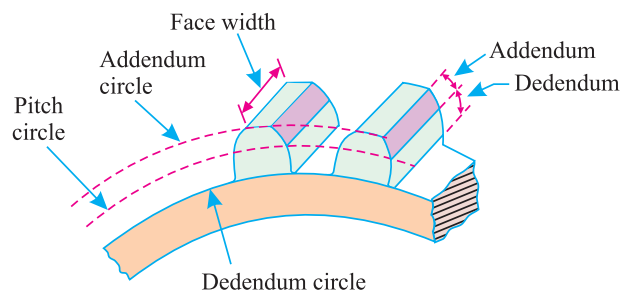

Fig. 34.2. Terms of gears.
1. **Pitch circle.** An imaginary circle, which would transmit the same motion as the actual gear, by pure rolling action, is called *pitch circle* as shown in Fig. 34.2. The diameter of the pitch circle is known as pitch circle diameter.
2. **Addendum circle.** The part of a gear outside the pitch circle is called addendum, and the circle (concentric with the pitch circle) drawn through the top of the teeth is known as *addendum circle* as shown in Fig. 34.2. The diameter of the *addendum circle* is known as addendum circle diameter.
3. **Dedendum circle.** The part of a gear inside the pitch circle is called dedendum, and the circle (concentric with the pitch circle) drawn through the bottom of the teeth is known as *dedendum circle* or root circle shown in Fig. 34.2. The diameter of the *dedendum circle* is known as dedendum circle diameter.
7. **Face of the tooth.** The surface of a tooth along its width, and above the pitch circle is known as *face of the tooth* as shown in Fig. 34.2.
8. **Flank of the tooth.** The surface of a tooth along its width, and below the pitch circle is known as *flank of tooth* as shown in Fig. 34.2.
9. **Face width of the tooth.** The width of a tooth, measured parallel to its axis, is known as *face width* of the tooth as shown in Fig. 34.2.